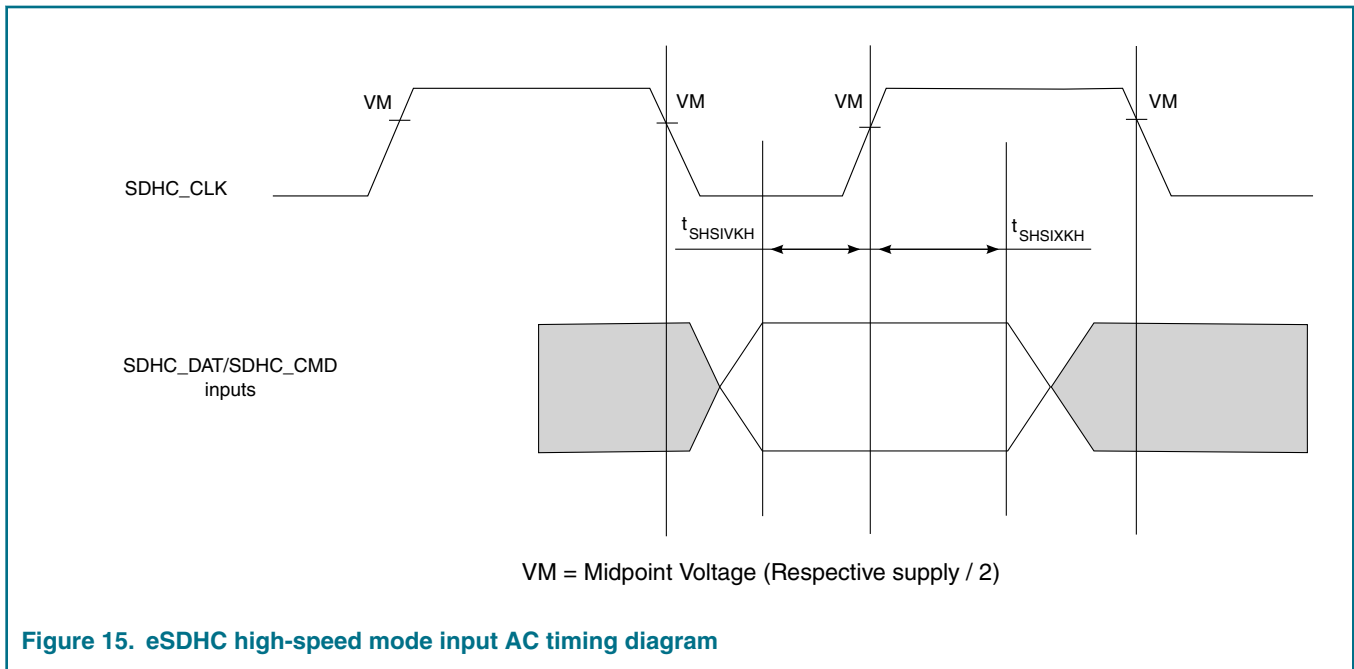
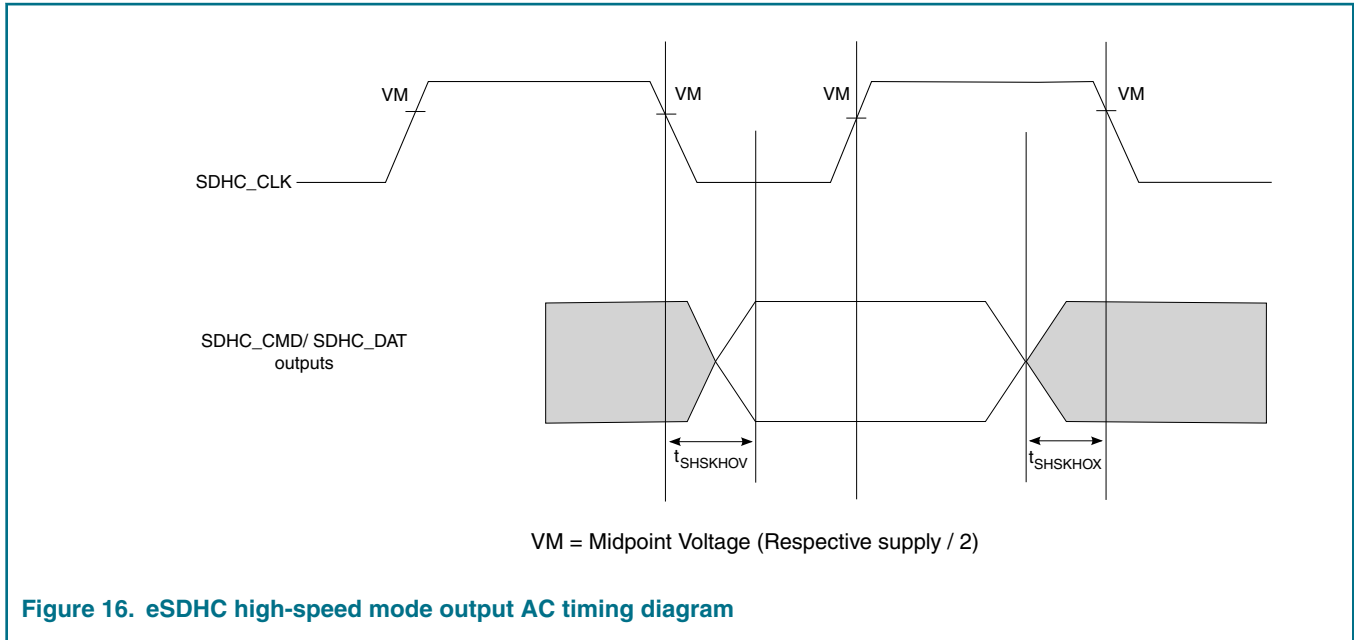

Figure 15. eSDHC high-speed mode input AC timing diagram
Figure 16. eSDHC high-speed mode output AC timing diagram
<p>1. The symbols used for timing specifications herein follow the pattern of $t_{(first\ two\ letters\ of\ functional\ block)(signal)(state)\ (reference)(state)}$ for inputs and $t_{(first\ two\ letters\ of\ functional\ block)(reference)(state)(signal)(state)}$ for outputs. For example, t_{SHKHOK} symbolizes eSDHC highspeed mode device timing (SH) clock reference (K) going to the high (H) state, with respect to the output (O) reaching the invalid state (X) or output hold time. Note that in general, the clock reference symbol is based on five letters representing the clock of a particular functional. For rise and fall times, the latter convention is used with the appropriate letter: R (R for rise) or F (F for fall).</p> <p>2. In high-speed mode, the clock frequency value can be 0-50MHz for an SD/SDIO card and 0-52MHz for an MMC card.</p> <p>3. $C_{CARD} \leq 10\ pF$, (1 card), and $C_L = C_{BUS} + C_{HOST} + C_{CARD} \leq 40\ pF$.</p> <p>4. SDHC_SYNC_OUT/IN loop back is recommended to compensate the clock delay. In case the SDHC_SYNC_OUT/IN loopback is not used, to satisfy setup timing, one-way board-routing delay between host and card, on SDHC_CLK, SDHC_CMD, and SDHC_DATx should not exceed 1ns for any high-speed eMMC . For any high-speed or default speed mode SD card, the one-way board-routing delay between host and card, on SDHC_CLK, SDHC_CMD, and SDHC_DATx should not exceed 1.5ns.</p> <p>5. See Figure 15. on page 86.</p> <p>6. See Figure 16. on page 87.</p> <p>7. The AC timing specifications are based on the recommended operating conditions with EVDD =3.3V and OVDD=1.8V, see Recommended Operating Conditions</p>